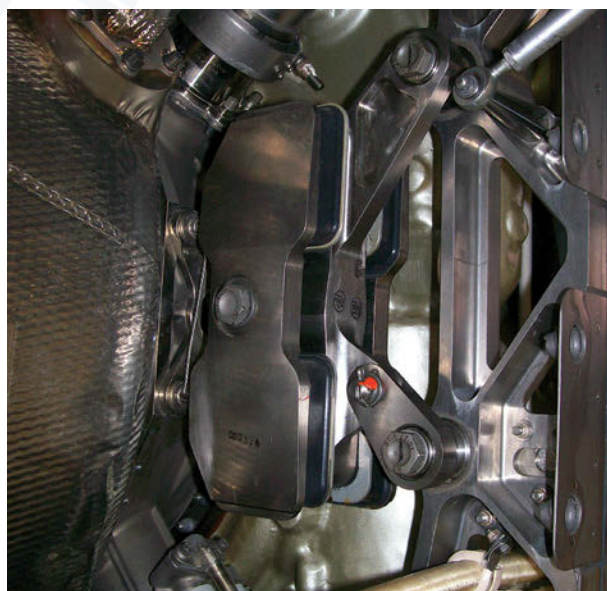

Figure 71-28. Aft Side Mount
- Figure 71-28. Aft Side Mount.